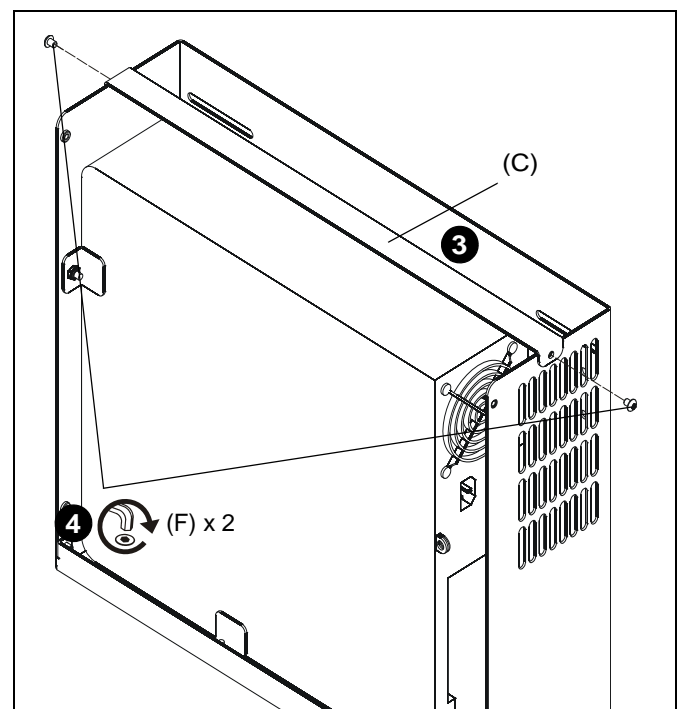

Figure 3
3. Place CPU cross strap (C) over CPU holder (A) lining up holes with top center holes on CPU holder. (See Figure 3)
4. Install two #10-24 x 1/4" button head cap screws (F) through CPU cross strap (C) and CPU holder (A). (See Figure 3)